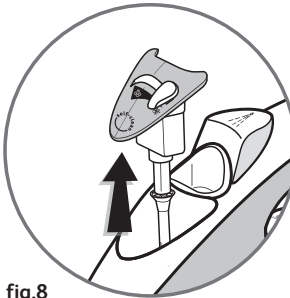

fig.8
- Remove the anti-calc valve (fig.8).
- Remove the anticalc valve (fig.8).